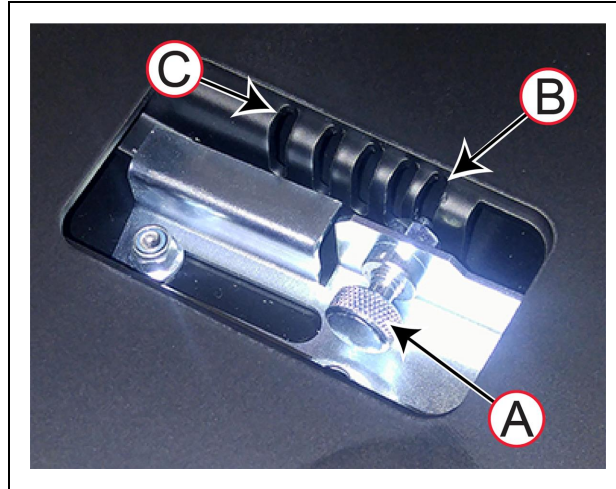

Figure 3-18 Adjusting the Height of the Docking Station Contacts
The height adjustment mechanism is on the underside of the docking station's floor plate, shown in Figure 3-18.
5. Pull out the pin (A) and slide it in the direction (C) to select a position slot (B). Adjust the position of the paddle as shown in Figure 3-18. The height changes by 4 mm (0.15 inch) for each notch.